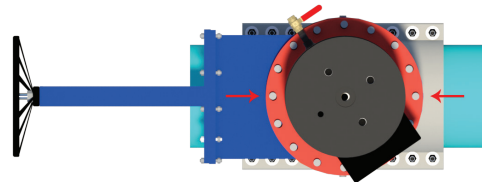

Figure D-19
**D2.2)** Thread 2 alignment nuts onto the studs which connect the insertion housing to the temporary gate valve. Place these nuts at the locations shown in Figure D-19. Install alignment nuts so that the tapered part of the nut enters the flange hole.